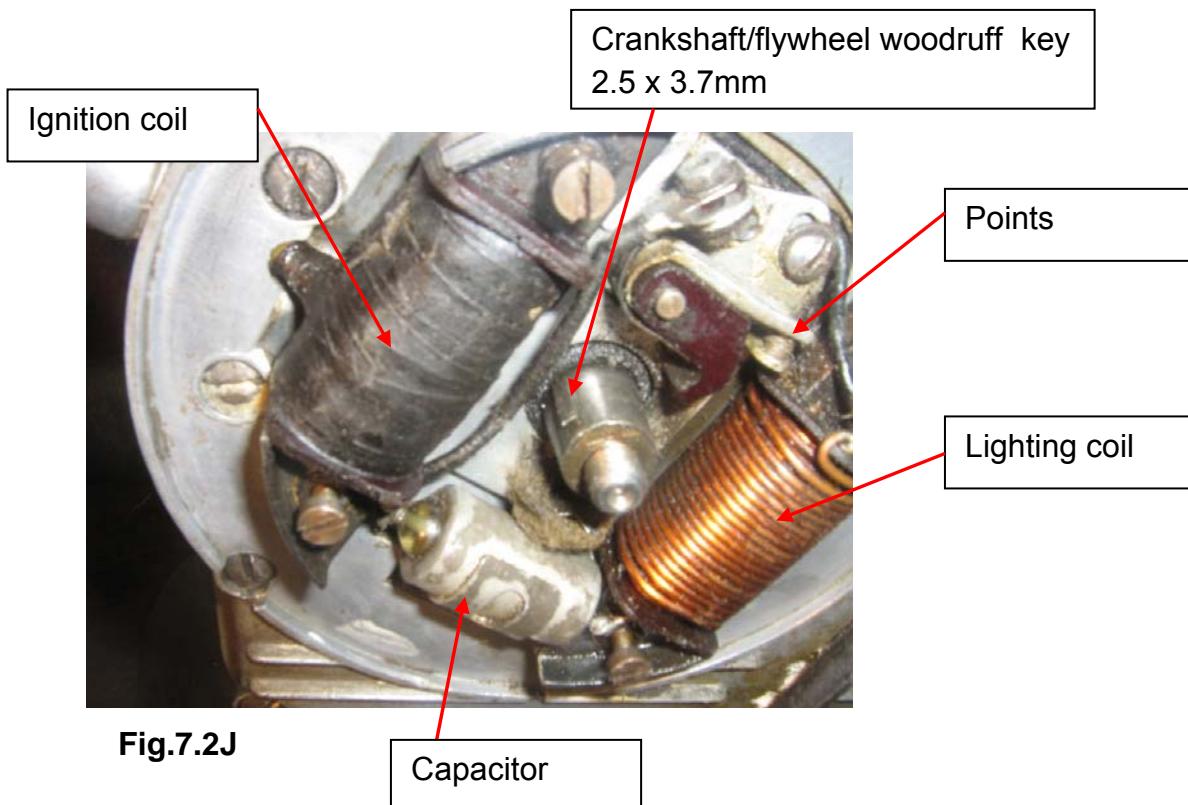

Fig.7.2J
- The flywheel is locked in position with a 2.5 x 3.7mm woodruff key (this key is the same as the BMW motorcycle camshaft woodruff key). This is for all model cucciolo's from including 48cc T1 and T2, all 60cc, all all 65cc. Once the flywheel has been removed the ignition and lighting system is now exposed. See **Fig 7.2J**